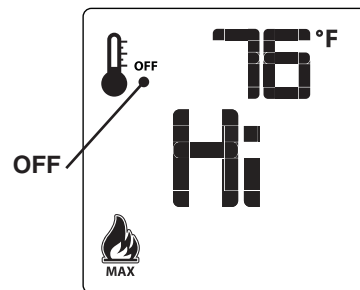

Fig. 45-3 Manual mode
- **Manual Mode (Fig. 45-3):** In this mode, the room temperature is ignored and the fireplace can be turned on indefinitely. The room temperature rise has no effect on this mode. All other functions (fan speed, flame height, secondary burner ON/OFF, and accent light ON/OFF controls) will be manually controllable via the remote controller.